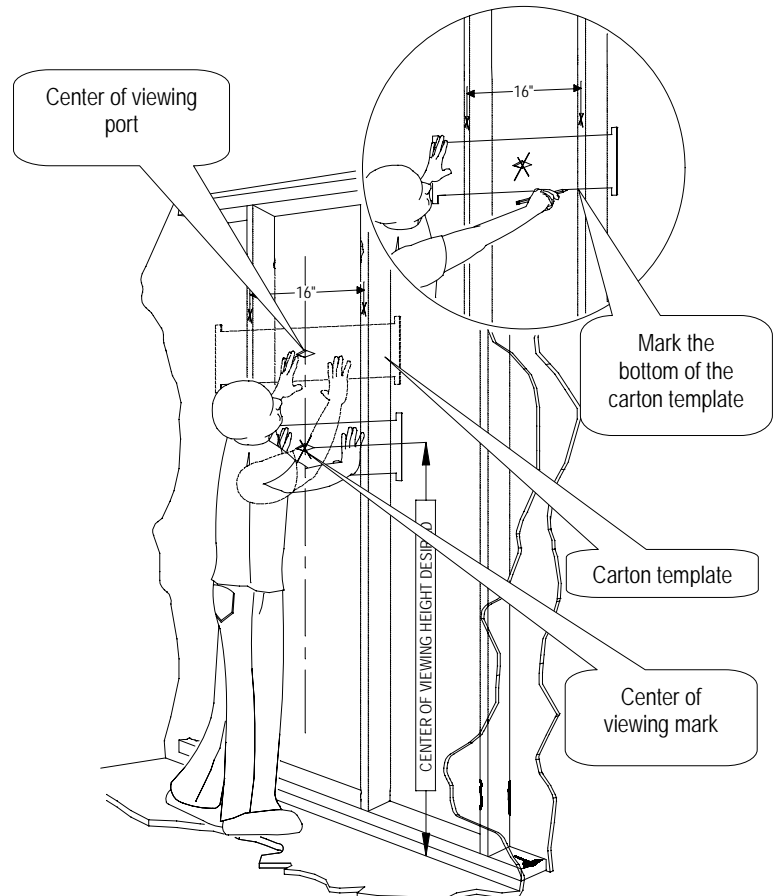

Figure 9
Align the center viewing port from the carton template to the center of the wood studs horizontally. Match the center of viewing port to the center of viewing height desired and mark a line on the bottom of the carton template (Figure 9).
**NOTE:** This marking will reference the center of your flat panel display once mounted on the wall (Figure 9).